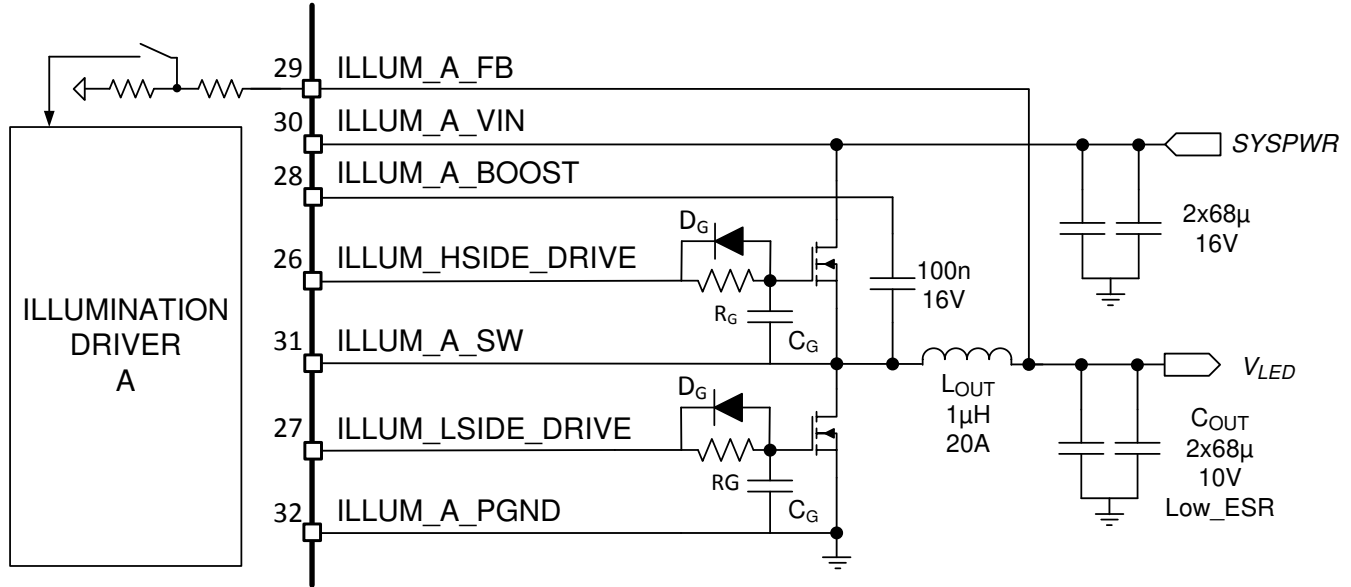
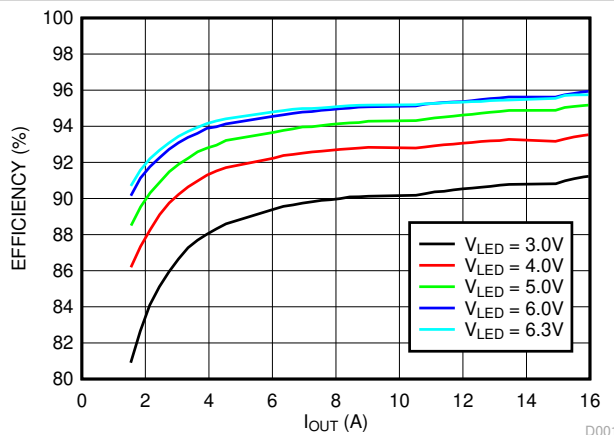

图 7-4. Typical Illumination Driver Configuration
图 7-10. Illumination Driver Plus Power FETs Efficiency ($V_{ILLUM_A_IN} = 12 V$)
The illumination driver of the DLPA3005 is a buck controller for driving two external low-ohmic N-channel FETs (图 7-4). The theory of operation of a buck converter is explained in the application note Understanding Buck Power Stages in Switchmode Power Supplies. For proper operation, selection of the external components is very important, especially the inductor L_{OUT} and the output capacitor C_{OUT} . For best efficiency and ripple performance, an inductor and capacitor should be chosen with low equivalent series resistance (ESR).
Below (图 7-10) an overview is given of the efficiency of the illumination driver plus power FETs for an input voltage of 12 V. Used external components (图 7-4): High-side FET (L) CDS17506Q5A, Low-side FET (M) CDS17501Q5A, $L_{OUT} = 2 \times 2.2 \mu H$ parallel, $C_{OUT} = 88 \mu F$. The efficiency is shown for several output voltage levels (V_{LED}) versus output current.